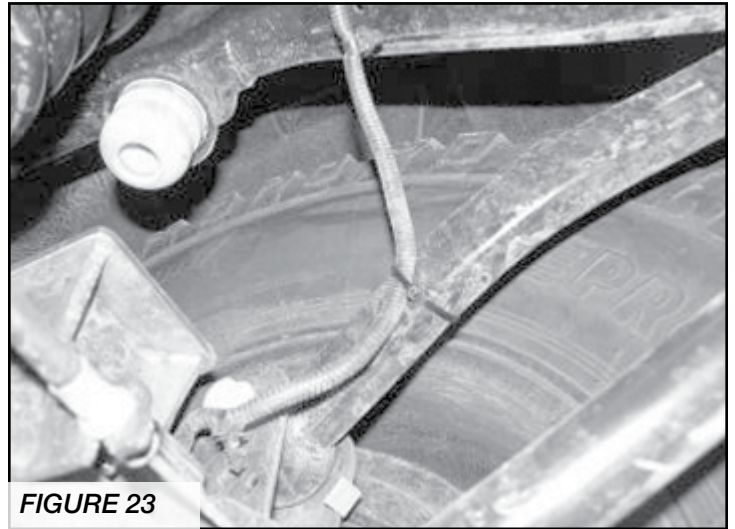

FIGURE 23
27. Reconnect the factory ABS mount to the rear differential and torque to 20 ft-lbs. Route the ABS line in the stock routing and attach the line to the upper link arm with the supplied 8" zip ties. SEE FIGURE 23